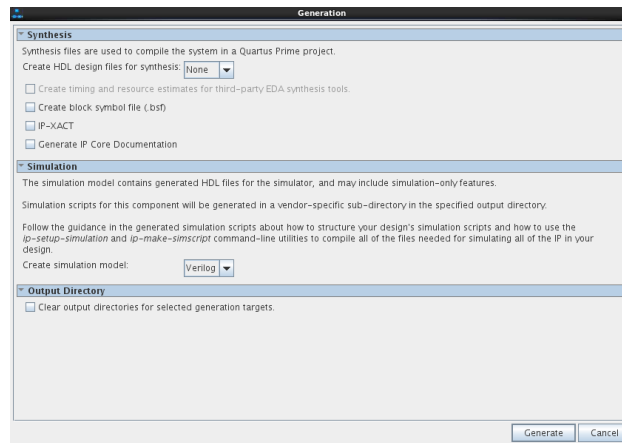

Figure 2: Generate HDL Window
1. Click **Generate** > **Generate HDL** from the menu bar. This opens the dialog box shown in Figure 2.